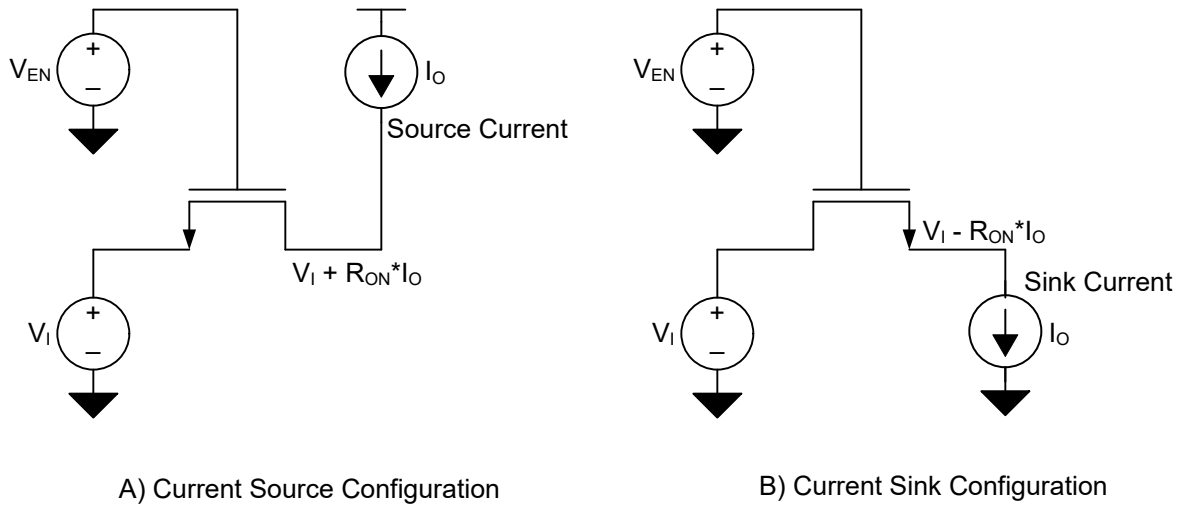

图 7-1. Current Source and Current Sink Configurations for Direct R_{ON} Measurements
(1) All typical values are at T_A = 25°C.
(2) Measured by the voltage drop between the SCL1 and SCL2, or SDA1 and SDA2 terminals, at the indicated current through the switch. Minimum ON-state resistance is determined by the lowest voltage of the two terminals.
(3) Measured in current source configuration only. See 图 7-1
(4) Measured in current sink configuration only. See 图 7-1